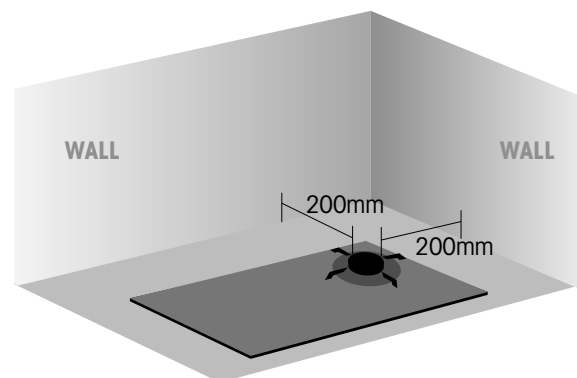

Fig. 19
- **Gas Cooktops** - **essastone** splashbacks must be installed at a minimum of 200mm from the back edge of the rear burners (as per AS 5601) and according to any specific installation instructions from the appliance manufacturer (*See Fig. 19*).